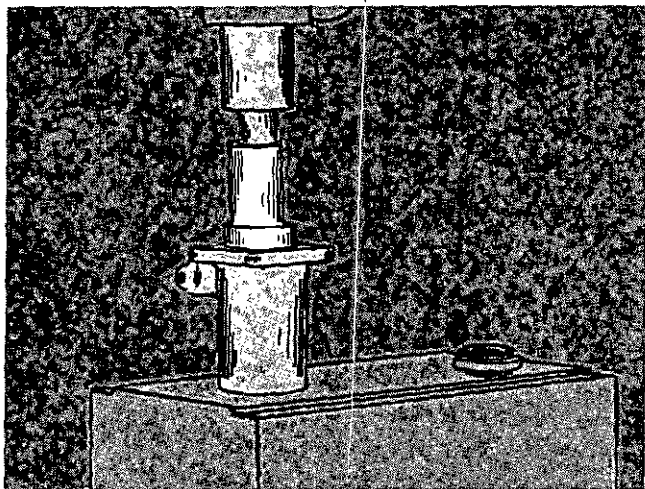

Fig. 4-29. Install The Sleeve Into The Housing.
10. If the actuator sleeve and shaft guide were removed from the actuator housing, install a new sleeve and shaft guide. Use the 3376024 Sleeve and Shaft Guide Installation Tool and an arbor press to install the sleeve. With the mounting surface of the housing up, put the housing on the press. With the machine part of the outside diameter of the sleeve up, push the sleeve into the housing, Fig. 4-29.